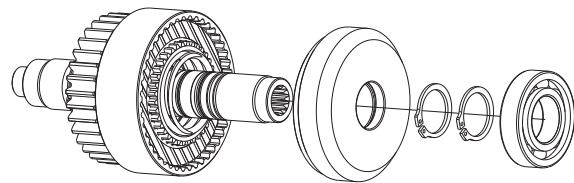

Figure 6 – Output Shaft Component's Removal
9. Using a bearing puller, remove the front bearing (1). Using snap ring pliers, remove the snap ring's (19) located on the front end of the output shaft while gently pushing on the piston cup (18). *See Figure 6*
10. Pull the piston cup (18) from the shaft and the piston (16) will go with it. *See Figure 6*